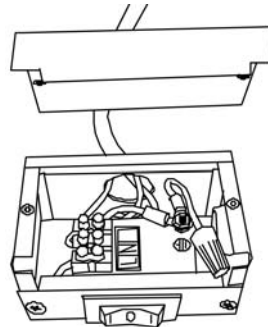

Figure 4 - Electric Box
- Connect supply circuit wires Line/Neutral to terminal marked Line/Neutral, connect the earth/grounding wire (green) to the earth/grounding conductor of the supply circuit using wire nut supplied (Figure 4). Do not leave loose strands or loose connections, carefully pushing all wiring into the switch box.
8. Replace switch and switch plate with blank switch plate supplied, Figure 4, reinstall power supply box cover plate.